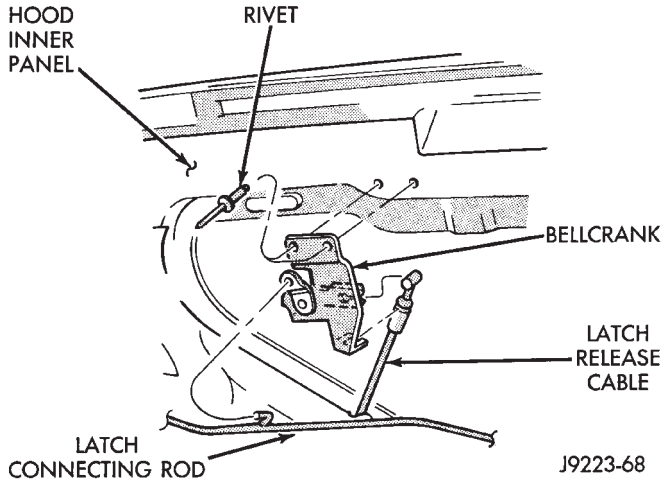

Fig. 6 Hood Release Cable Bellcrank
- (1) Drill out bellcrank to hood rivet heads and remove rivets (Fig. 6).
- (2) Disconnect bellcrank from latch rod and hood release cable. Remove bellcrank from hood.
- (3) Disconnect hood release cable from clips on hood.
- (4) Remove left cowl side trim panel.
- (5) Remove cable bracket screws from cowl side panel.
- (6) Route cable through dash panel and remove it from under instrument panel.